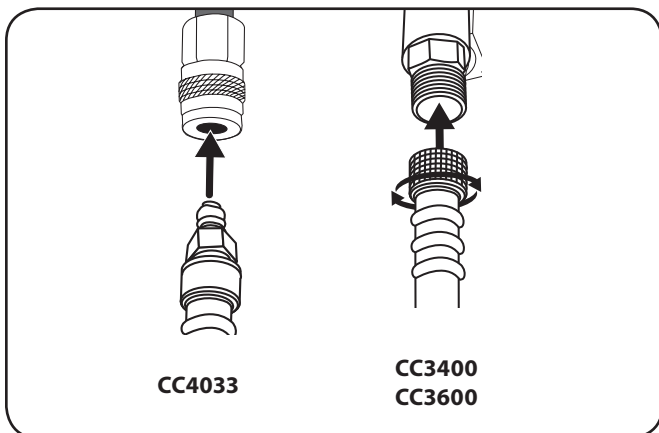

Figure 5-3
7. Connect high pressure hose to pump outlet. See Figure 5-3.